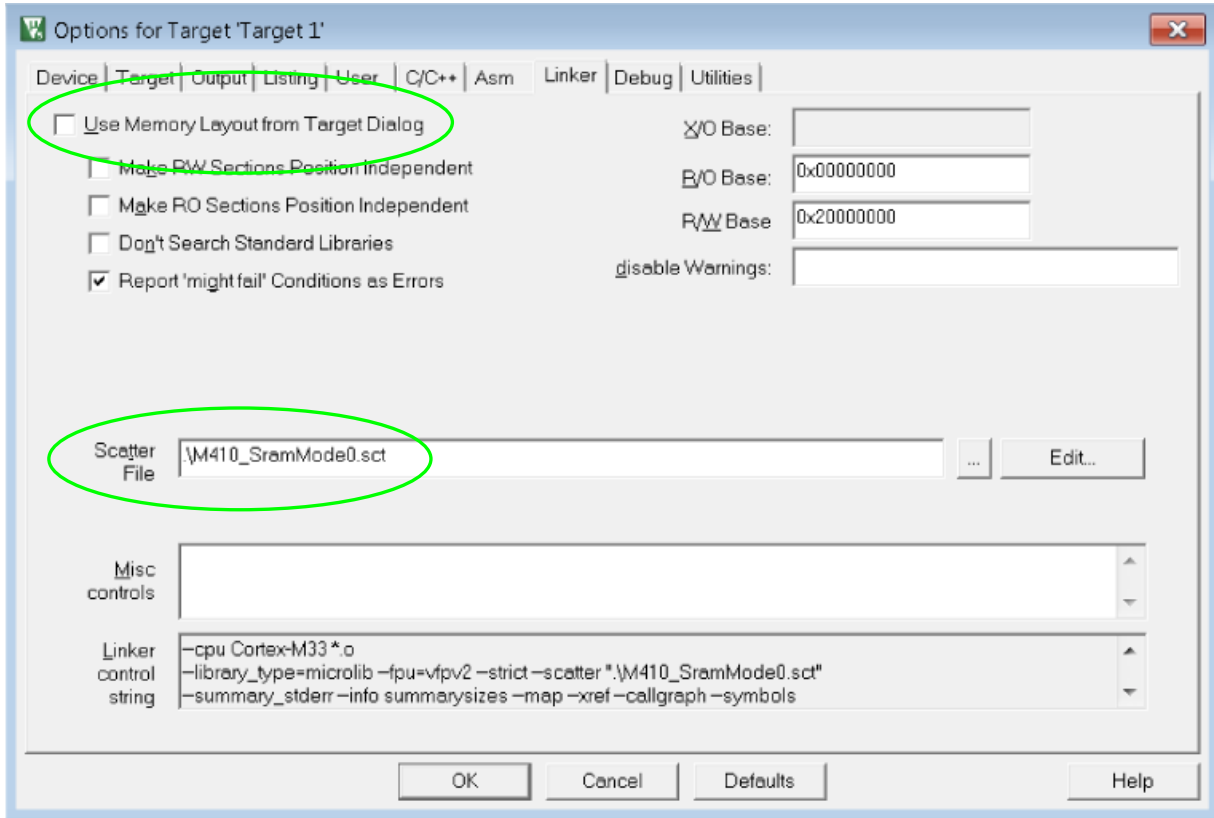

Figure 37. Keil SRAM Output Mode 0
8. After following Step 1 and Step 2, proceed to set up the .sct file located in **Flash > Configure Flash Tools > Linker**. Refer to Figure 37 to check the settings circled in green are correct and that the correct scatter file is chosen (based on the SRAM mode configuration).